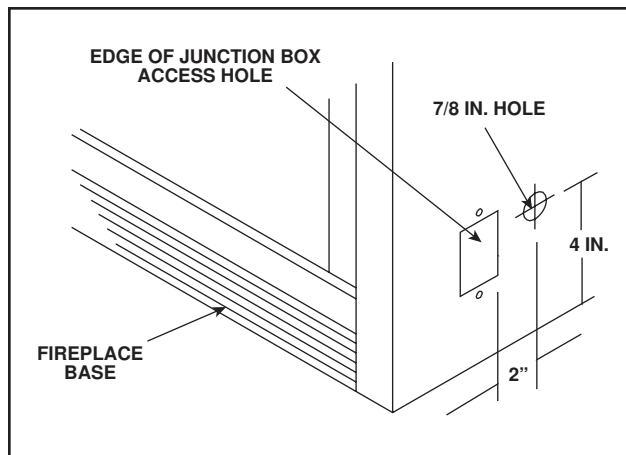

Figure 5.
- A 7/8 in. diameter hole must be bored in the side of the fireplace outer wrap in which the 5 wires from the power vent will be routed. The hole should be located 2 inches to the side of the junction box and 4 inches up from the base of the fireplace. See Figure 5.